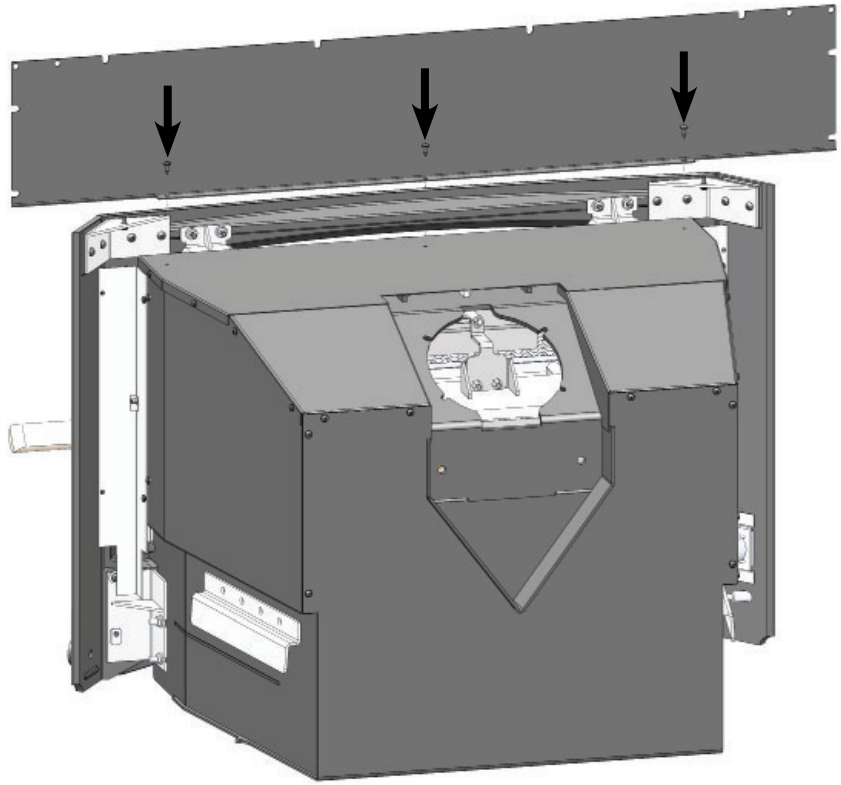

FIG.1
1. Fasten shroud top panel to stove using three 10x1/2" black screws. (FIG.1)